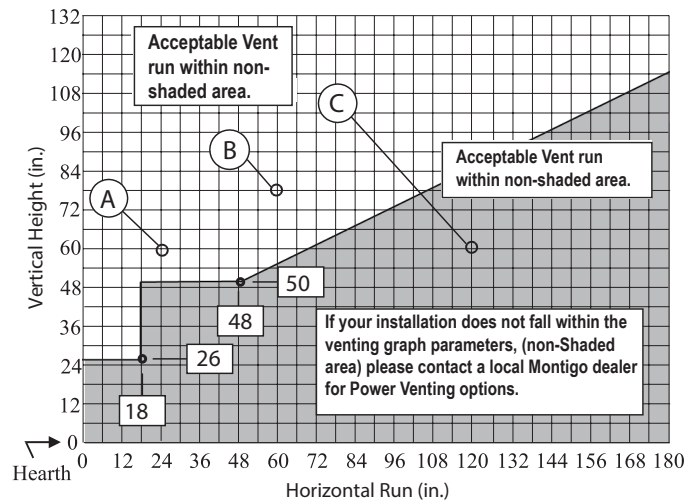

Figure 16. H*34DF* Rear Vent Venting Graph for wall mounted terminations, See Figures 16a or 16b.
- Venting runs *must* fall within the limits set by the venting graph, see Figure 16.
Measure the vertical height from the fireplace hearth to the centre of the termination and the horizontal run from the fireplace flue collar to the wall flange of the termination. Plot on the Venting Graph Figure 16 with an 'X'.
Figure 16b. Rear Vented, wall mounted Multi-elbow termination installation. Multi-elbow venting Installation for H*34DF* must have a minimum vertical rise of 50". The vent run must comply with the Venting Graph for Rear vent, wall mounted terminations, Figure 16.